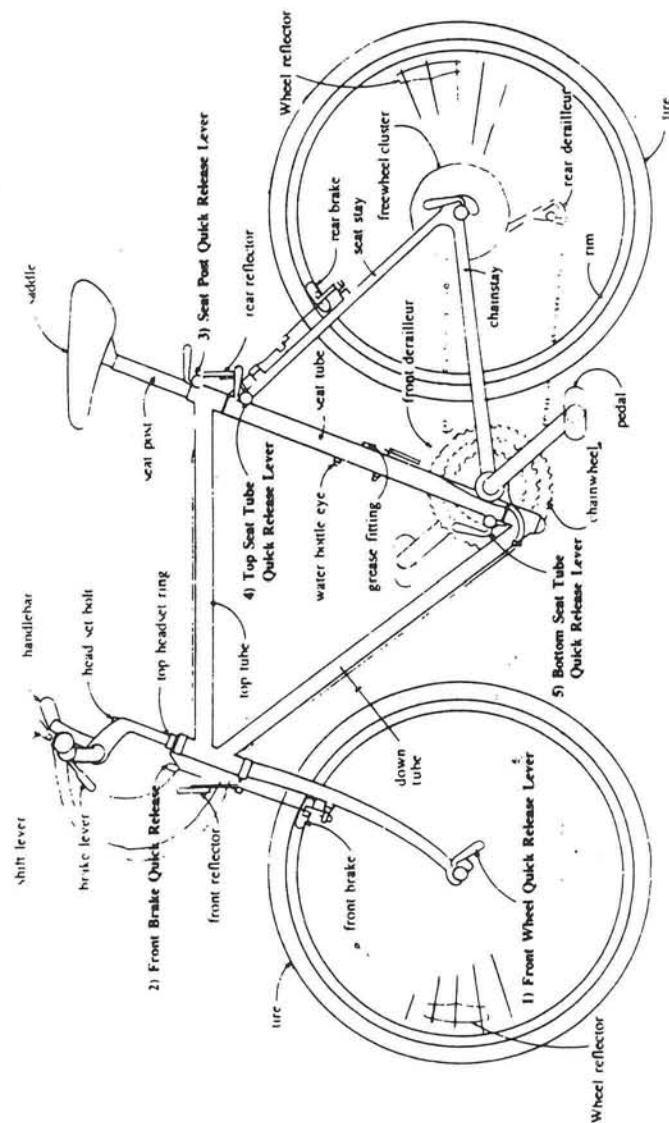

Figure 2
All five of the BiFrame's quick releases must be securely fastened before riding the bicycle. The five quick releases are (1) the front wheel quick release lever, (2) the front brake quick release, (3) the seat quick release lever and (4 & 5) the top and bottom seat tube quick release levers (Figure 2).